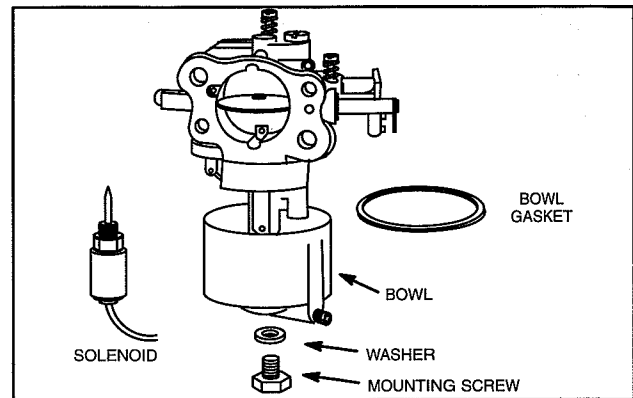

Fig. 5 – Removing Float Bowl
1. Remove anti-afterfire solenoid or bowl screw and washer, Fig. 5.